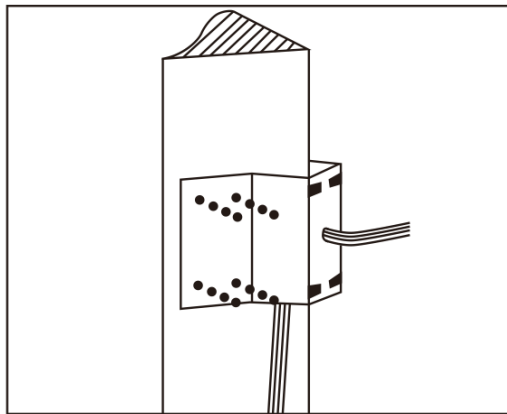

Fig 6
- b. As shown in Fig6, use M8 screw nut to fix the base of corner mounted on the wall with all cables